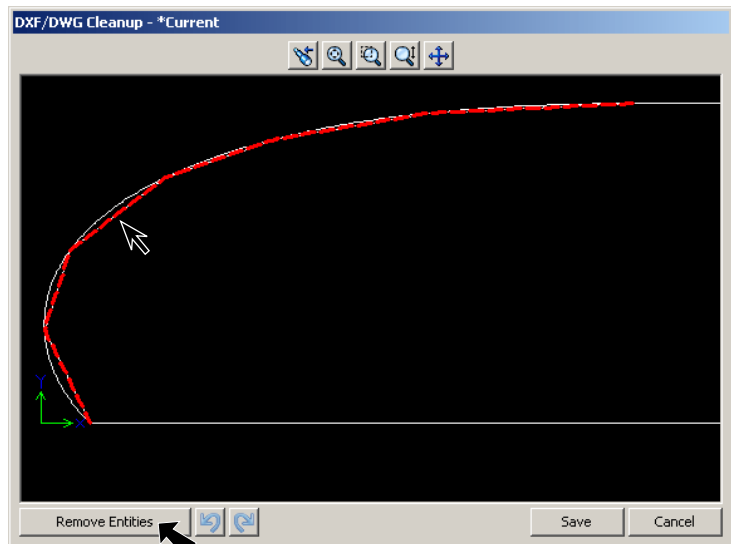
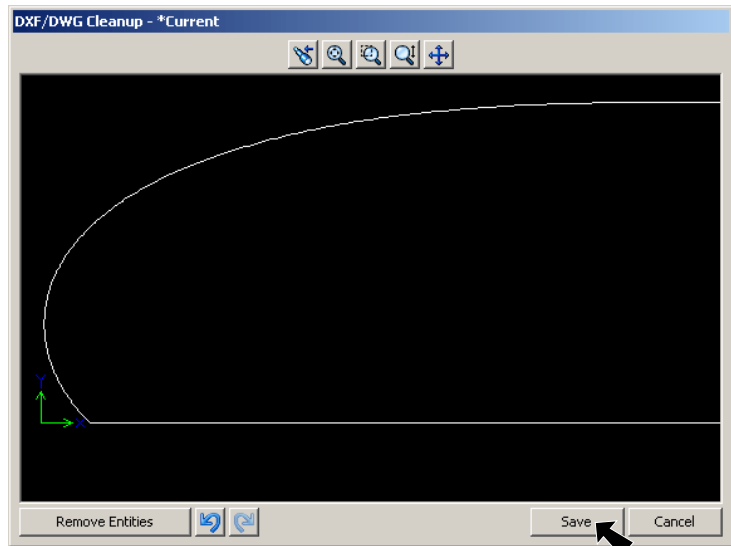

Fig. 9
Fig. 10
To remove, **select the segmented spline** and click **Remove Entities**, **Fig. 9** and **Fig. 10**.
Step 11. Click Save, **Fig. 10**.